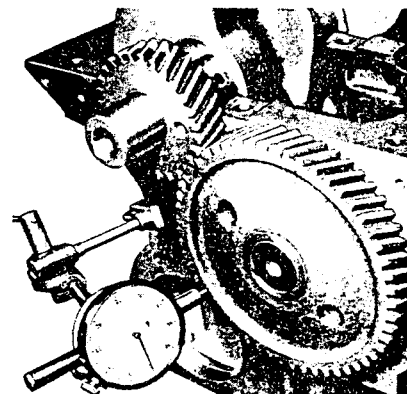

Figure 8-1-38
3. Check camshaft and crankshaft gear runout with a dial indicator (see Figure 8-1-38). The camshaft gear runout should not exceed 0.004" and the crankshaft gear runout should not exceed 0.003".